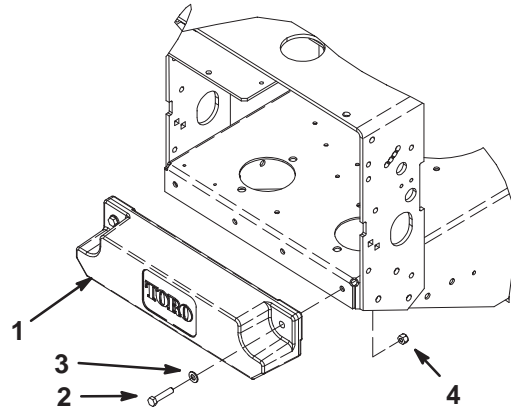

Figure 2
2. Securing the weight to **rear** of frame with 2 capscrews, washers and nuts is **optional** when a Tru-Trak[®] Sulky is not installed (Fig. 2).
1. Secure weight to **rear** of frame with 2 capscrews, washers and nuts (Fig. 2).